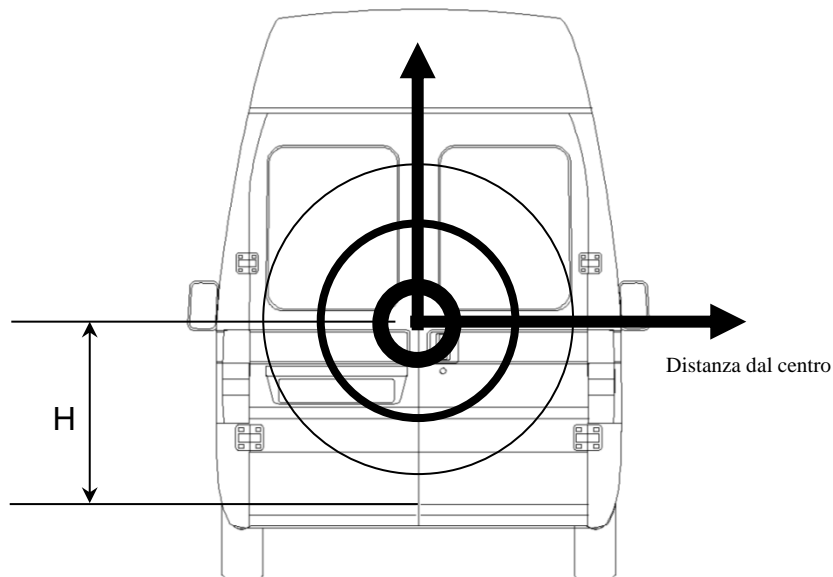

Fig.4
- Positioning The margin of the armor with respect to the lower edge of the door "H" must be such as to maximize effectiveness, therefore as much as possible in the middle of the tailgate (see fig.4) in order to reduce the leverage effects.